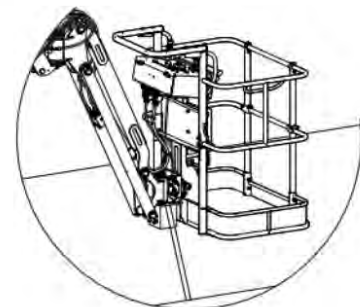

Figure 25 Platform tie-down
7. Place block underneath platform rotator and gently lower rotator onto block and secure in place. Strap must be secured underneath hoses and cables to avoid damage to MEWP (refer to Figure 25). Do not use excessive downward force when securing platform.